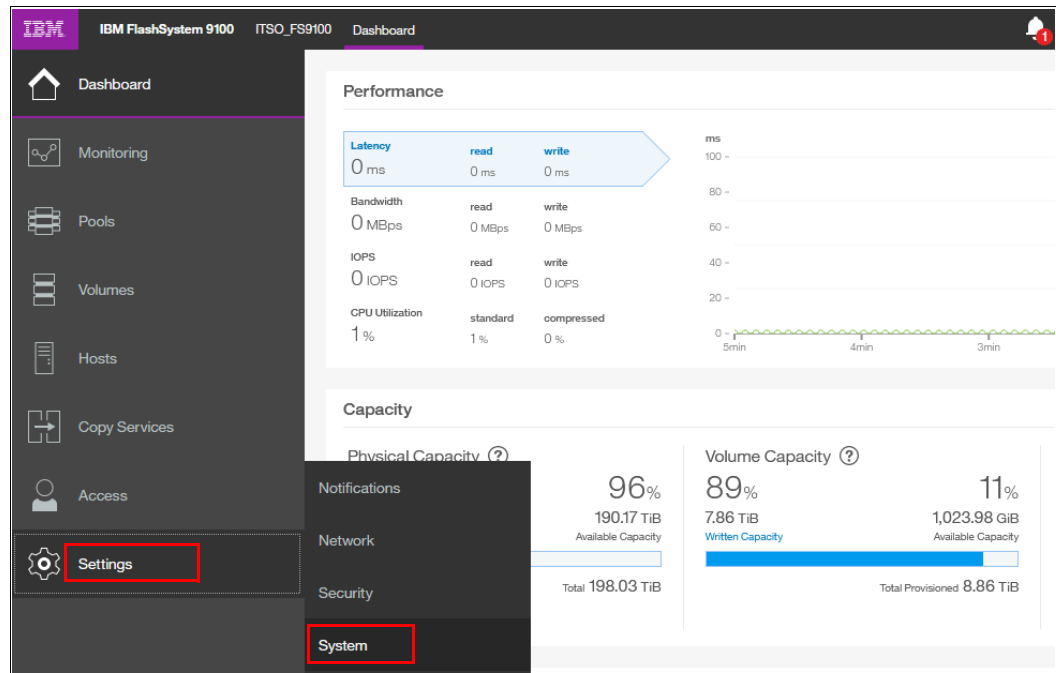

Figure 7-47 Settings menu
2. Log in with superuser rights. The IBM FlashSystem 9100 management home window opens. Click **Settings** and click **System** (Figure 7-47).